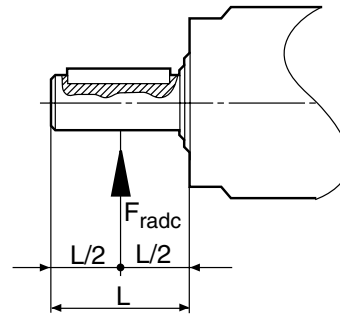

Fig. 3: Force applied at centre of shaft
- The force is applied to the centre of the output shaft, as in figure 3. This value can be read off on the table below, where consideration must be given to the following: